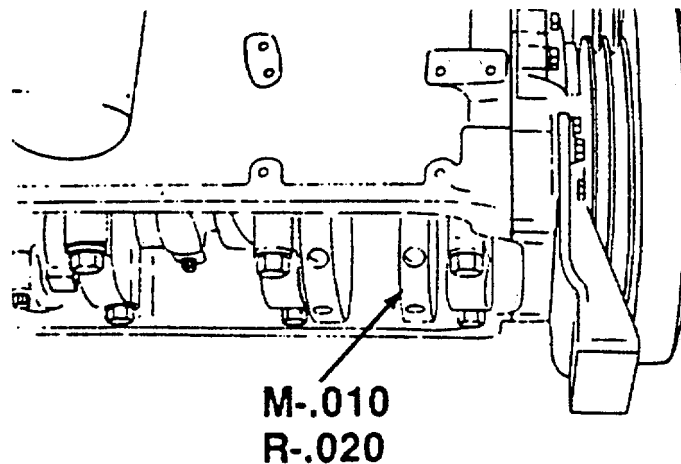

FIGURE 4-30. Counterweight Markings for Bearing Sizes.
- o Bearing shells (12) are available for crankshafts which are 0.010 inch (0.25 mm), 0.020 inch (0.51 mm), 0.030 inch (0.76 mm), or 0.040 inch (1.02 mm) undersize. Crankshafts which are ground undersize in the connecting rod or the main bearing journals are marked on the front counterweight. If the crankshaft is marked, check the bearing shell to make sure the correct bearing size is used (Figure 4-30).